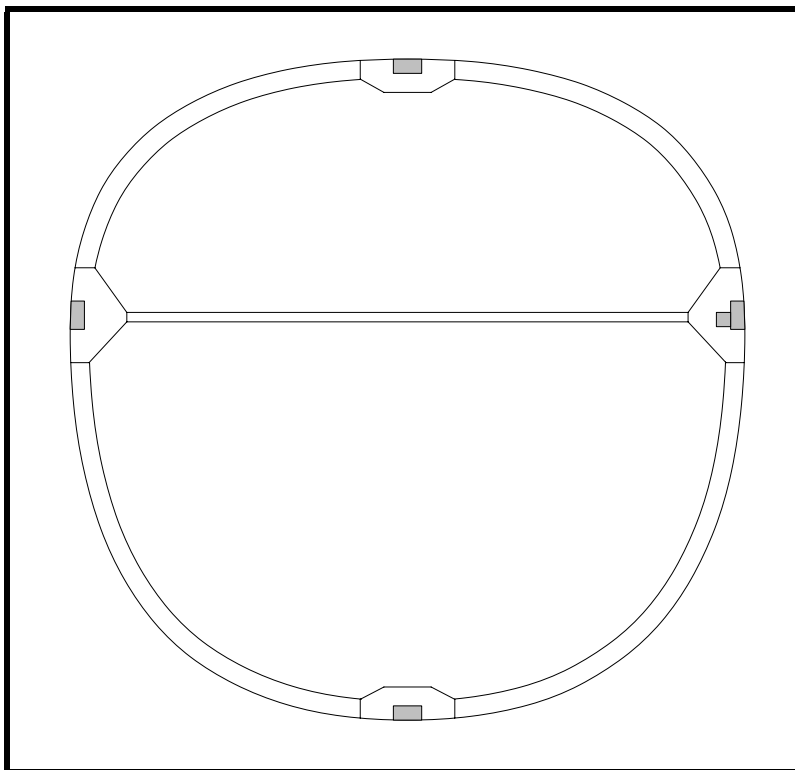

Figure 28
- ❑ Lay out the location of the intersection of the cockpit side walls with the upper wing skin. Note that the side walls will not attempt to follow the radiuses on frames 4 and 5. You should have previously installed gluing strips on the front face of frame No. 6 as shown in Chapter 23, Figure 28. It is essential that the side walls be as far outboard as possible just in front of frame 6 so that the seats don't hit them.
- ❑ Install the 15x15 spruce strip on the inboard face of the upper side longeron. This is the floor support for the battery box and is shown in Drawing No. 320. The top of this strip should be at the same W.L. as the top of the cross brace on frame 8 and 9. See Figure 28.